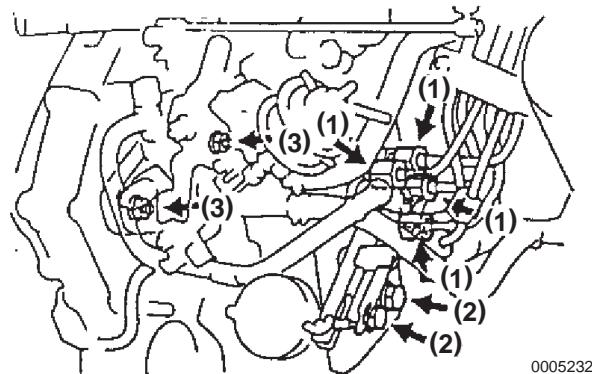

Figure 5-231
- (a) Remaining four union nuts (**Figure 5-231, (1)**) securing the fuel injection pipe to the fuel injection pump
- (b) Two bolts (**Figure 5-231, (2)**) securing the fuel injection pump to the fuel injection pump stay
- (c) Two nuts (**Figure 5-231, (3)**) securing the fuel injection pump to the timing gear case.